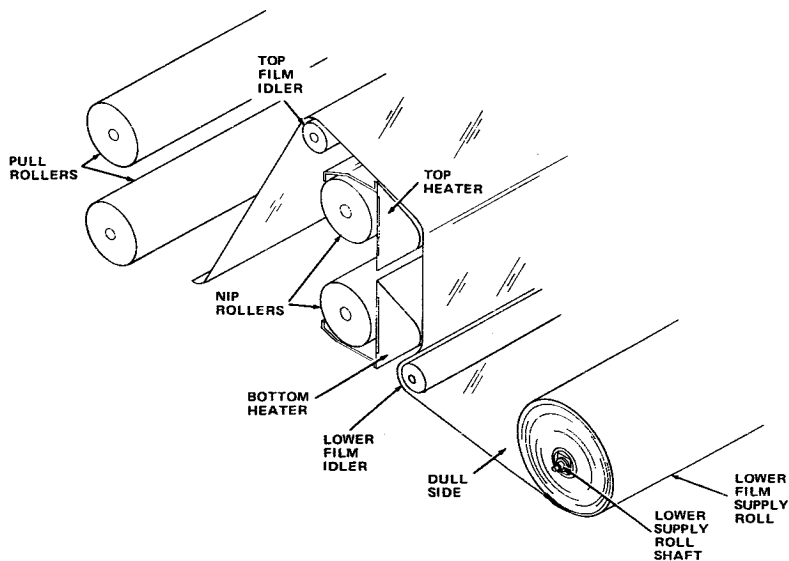

Figure 4.0.2 Initial Threading of Lower Film Supply
6. Turn the roll to unreel about two feet of film; then pass the free end behind the lower film idler (figure 4.0.2) and bring it up over the bottom heater, top heater, and upper film idler, then downward between the nip rollers and pull rollers. Assure that dull side of film is as shown in figure 4.0.2.